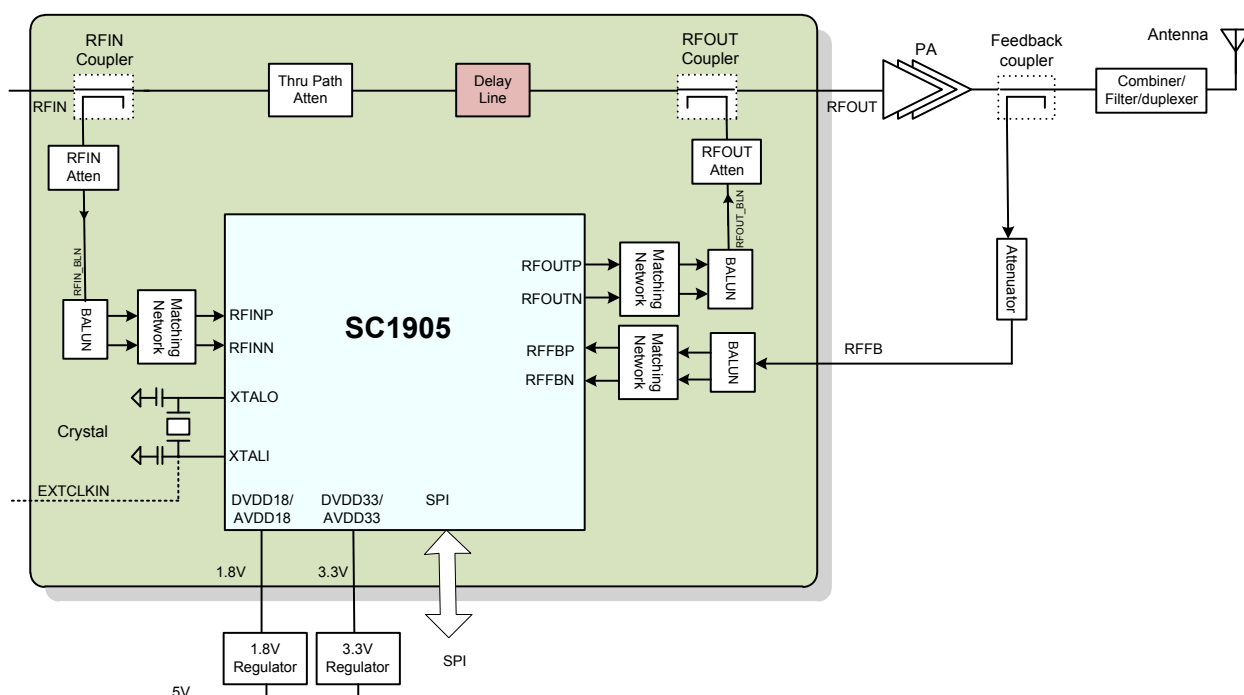
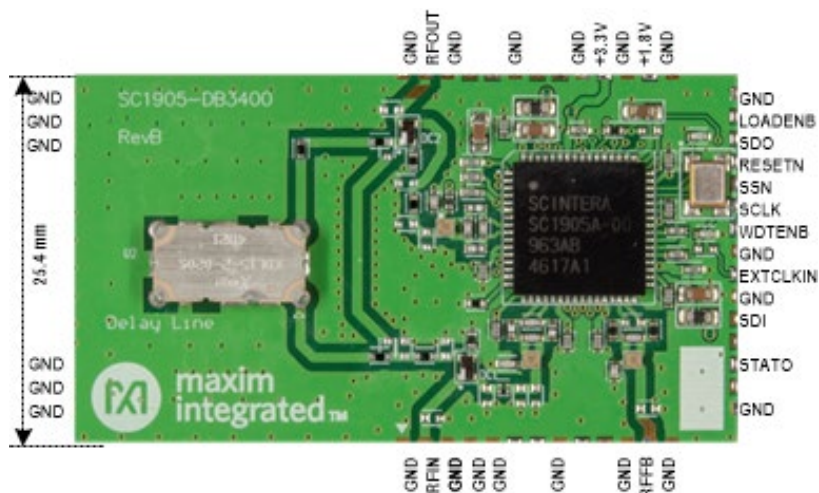

Figure 2. SC1905 reference design block diagram.
Figure 3. SC1905 reference daughter board photograph and pin configuration.
The SC1905 reference design contains all circuitry necessary for linearization and accurate power detection, including power-supply regulation from 5V DC. The PCB uses a single-side four-layer FR4 design, ideally suited for cost sensitive RF applications. The reference board block diagram is shown in **Figure 2** for SC1905. The pin configuration and photograph are shown in **Figure 3**.
- a. Although not represented in Figure 3, it is highly recommended to use a connector to upgrade firmware with the GUI during the system integration and SPI interface bring up. This connector must have the following signals: SDI, SDO, SSN, SCLK, RESETN, WDTEN, GND, and LOADENB.